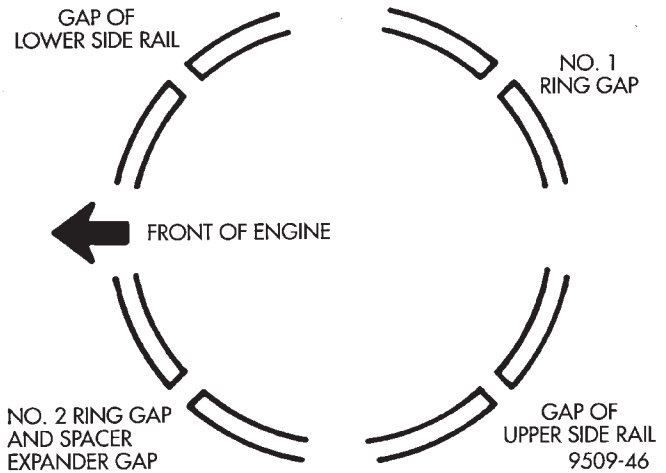

Fig. 95 Piston Ring End Gap Position
- (4) Position piston ring end gaps as shown in (Fig. 95).
- (5) Position oil ring expander gap at least 45° from the side rail gaps but **not** on the piston pin center or on the thrust direction. Staggering ring gap is important for oil control.
- (1) Before installing pistons and connecting rod assemblies into the bore, be sure that compression ring gaps are staggered so that neither is in line with oil ring rail gap.
- (2) Before installing the ring compressor, make sure the oil ring expander ends are butted and the rail gaps located as shown in (Fig. 95).